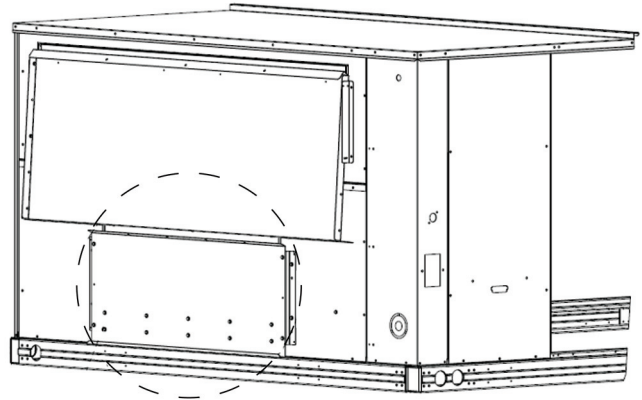

Fig. 31 — Shipping Location, Vertical Units
1. Remove the hood top panel from its shipping position on the unit end (see Fig. 31).